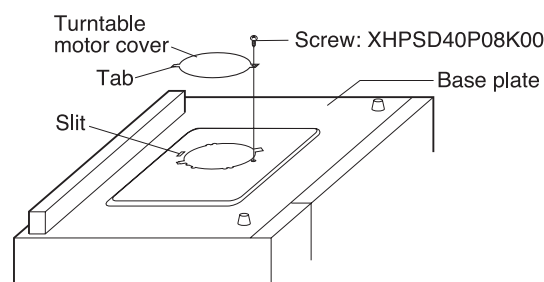

Figure C-1(b). Turntable motor cover re-install
5. Re-install the turntable motor cover to the base plate with the screw as shown in Figure C-1(b).